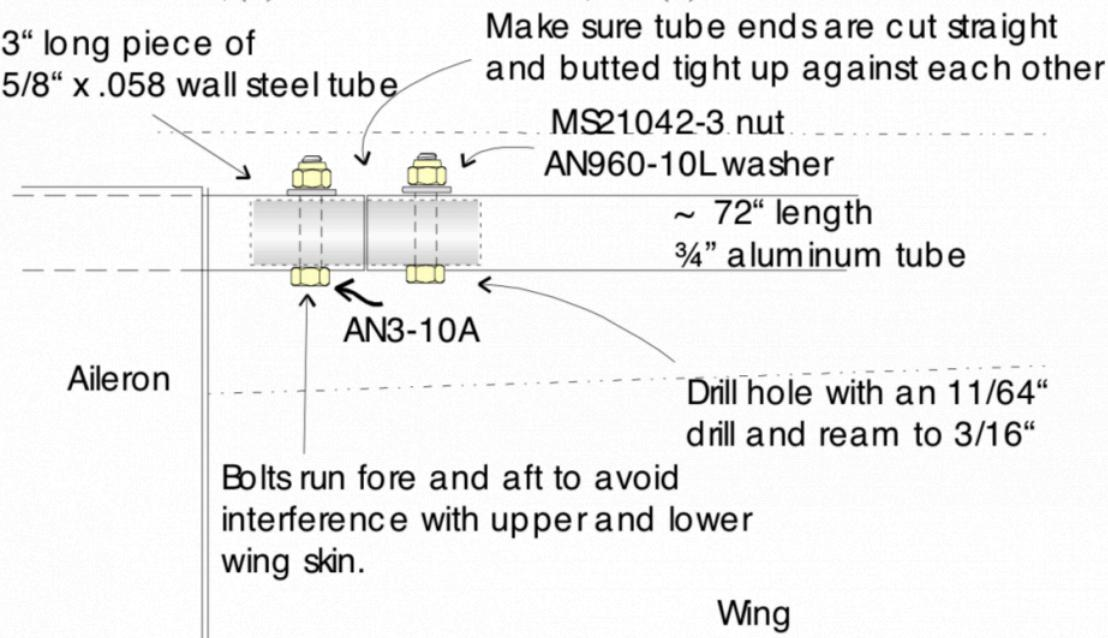

Figure 10-10. Aileron Torque Tube Assembly
- ___ The first step is to install the aileron torque tubes to the ailerons. Remove the aileron from the wing and install the 3" long piece of 5/8" x .058 wall steel tube (VAUJ-01) as shown in Figure 10-10. Install the 6 ' 3/4" aluminum tubing (VATT-01) to the other end of the steel tube as shown. Use an 11/64th drill and a 3/16" reamer to drill the hole. Attach with (2) AN3-10A bolts, (2) AN960-10L washers, and (2) MS21042-3 nuts.